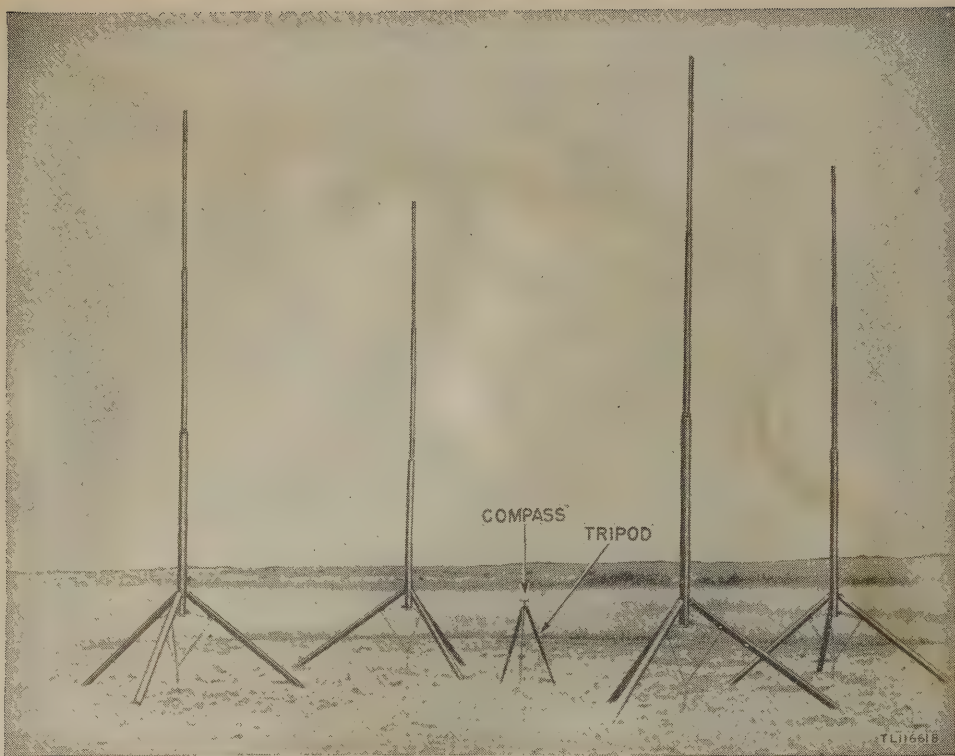
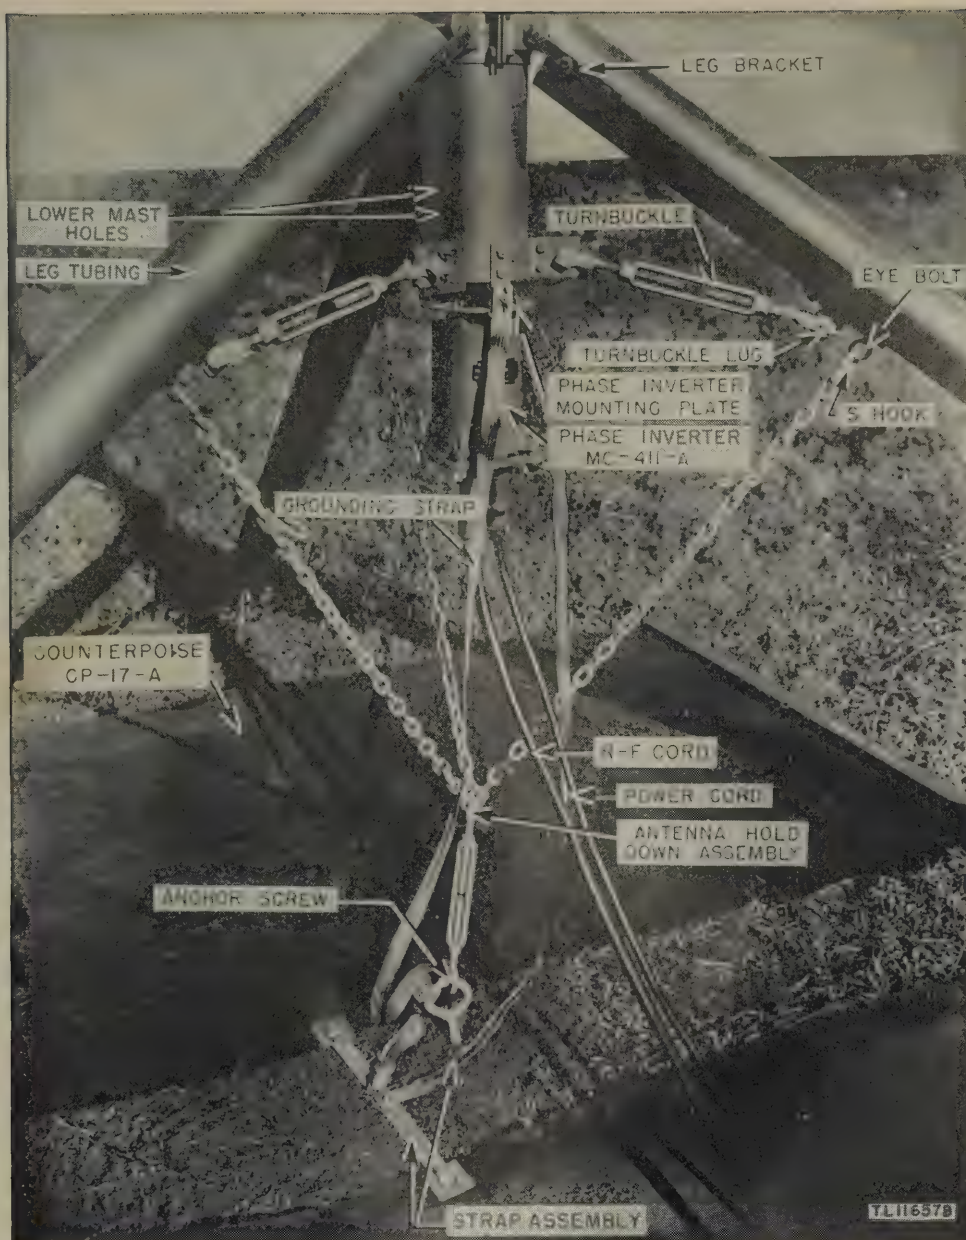

Figure 61. Compass and tripod at center of antenna array.
Figure 62. Antenna hold-down assembly and Counterpoise CP-17-A.
adjusting screws are reached through two holes in the lower end of the bottom mast section (fig. 62). An Allen wrench is inserted through these holes, and the adjusting screws are turned clockwise to expand the top and center sections, so that the three mast sections are tightened together and cannot come apart during transit. These expansion clamps must be loosened before the antenna sections can be extended.
- (1) Unhook the turnbuckles from the clamps that hold them flat against the bottom mast section.
- (2) Attach one leg piece by hooking the leg bracket (fig. 62) to the mast collar and fitting the corresponding turn-
- (10) Attach the hold-down assembly as shown in figure 62 and tighten the turnbuckles until the assembly is tight and the mast secure.
- (11) Carefully recheck the vertical alinement and positioning of the antenna. Make any readjustments needed to obtain correct distances or to make the antenna vertical.
- (12) With the compass turned successively to 90°, 180°, and 270°, install the east, south, and west antennas, respectively (fig. 61). With the compass at 90°, drive a marker stake on the line of sight and at a distance of 100 yards from the compass.
- (1) Remove the 10 counterpoise screen sections from Chest CH-209-A.
- (2) Position one pair of screens under each antenna mast (fig. 62) so that
- (3) Remove a strap assembly from the cover of Chest CH-209-A and connect the crossbar between the copper plates on the screen sections.
- (4) Under one of the wingnuts on the phase inverter housing at the antenna mast base, fasten the lug at the braid end of the assembly.
- (5) Remove a grounding strap from the right-hand compartment of Chest CH-209-A and fasten the clamp to the anchor screw under the antenna mast.
- (6) Fasten one of the grounding strap lugs under the wingnut on the crossbar assembly; fasten the other lug under the wingnut on the lower mast collar (fig. 62).
- (7) Install the five counterpoises by following (2) through (6) above.